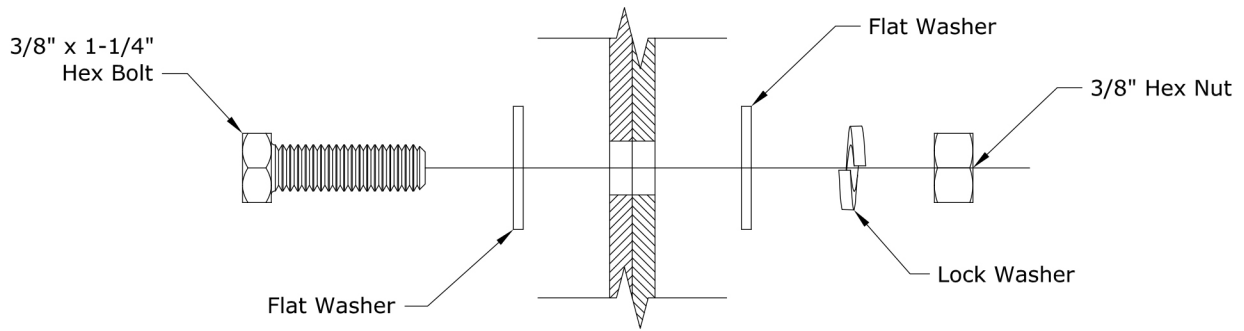

Figure 1.1
Note: The typical hardware connection will use (1) 3/8" x 1-1/4" hex bolt, (2) flat washers, (1) lock washer, and (1) 3/8" hex nut. Refer to Figure 1.1 for assembly.